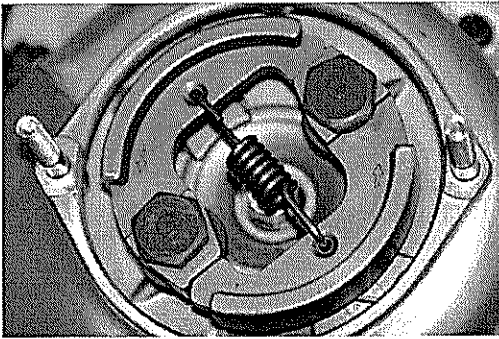

FIGURE 21
4. Using impact wrench and 17 mm socket, remove two capscrews retaining rotor and shoe assembly. NOTE: capscrew threads are righthanded. Remove rotor and shoe assembly from engine flywheel. FIGURE 21
10. Locate replacement clutch rotor and shoe assembly plus, thrust washers on engine flywheel with direction arrow pointing in counterclockwise direction. This orientation properly maximizes the torque transmitting capabilities of the clutch. Refer to FIGURE 21